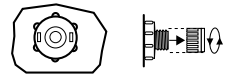

Figure 13.2h
2. Locate the drain valve located on the front left corner on the black plastic pan. Hold the larger (rear) drain valve body to prevent it from turning, then loosen and remove the front cap to expose the underlying male hose threads, Figure 13.2h.